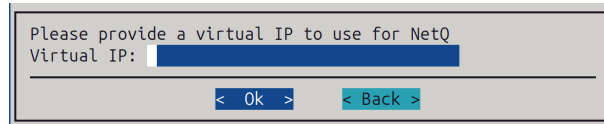

Figure 2.6: NetQ deployment: setting a virtual IP address
6. A virtual IP address is set for NetQ access (figure 2.6):